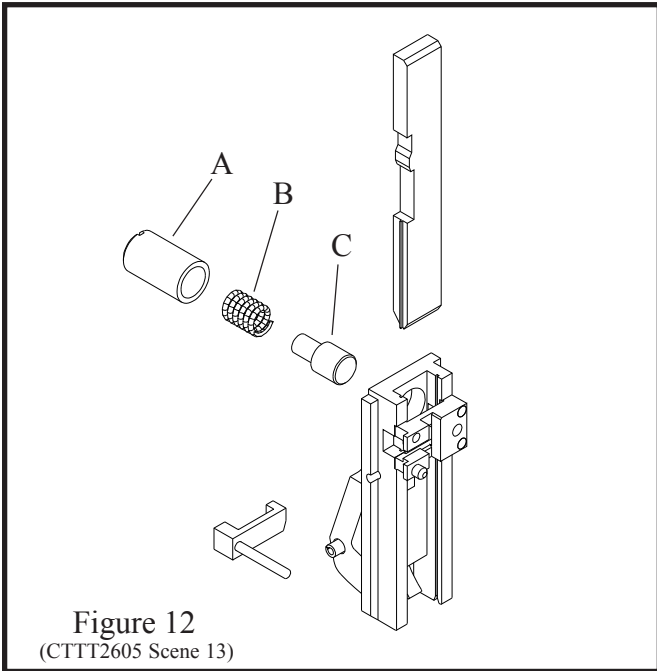

Figure 12
The bender bar bends the wire over the rotator and forms it into an unclinched stitch. The legs of the stitch are guided towards the work material by the bender bar grooves. The legs of the unclinched stitch should be perpendicular to the crown. When the bender bar grooves become worn, the legs tend to flare out (Figure 11) as they emerge from the grooves. This causes the legs to strike the clincher improperly. As a result, one or both legs will crumple and a broken driver bar or a broken bender bar can result. If the lower end of the bender bar grooves become chipped, it will not support the wire and may cause the stitch to break at the crown. Replace the bender bar assembly (See "G" page 15 or Fig. 12). Other bender bar functions are related to wire cutting ("I" page 16), and driving ("F" page 14).
E. Bender Bar Friction Plug And/Or Spring (Fig.12)